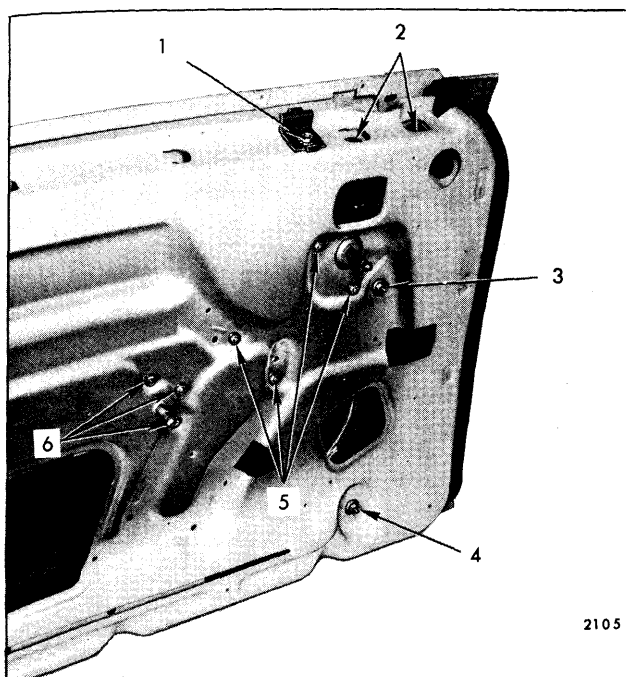

Fig. 7-94—Front Door Hardware—'E' Styles
- c. On 49487 Styles, remove regulator through large access hole (Fig. 7-94).
3. Remove center and lower adjusting stud nuts and upper two attaching bolts and remove guide assembly (see Fig. 7-94).